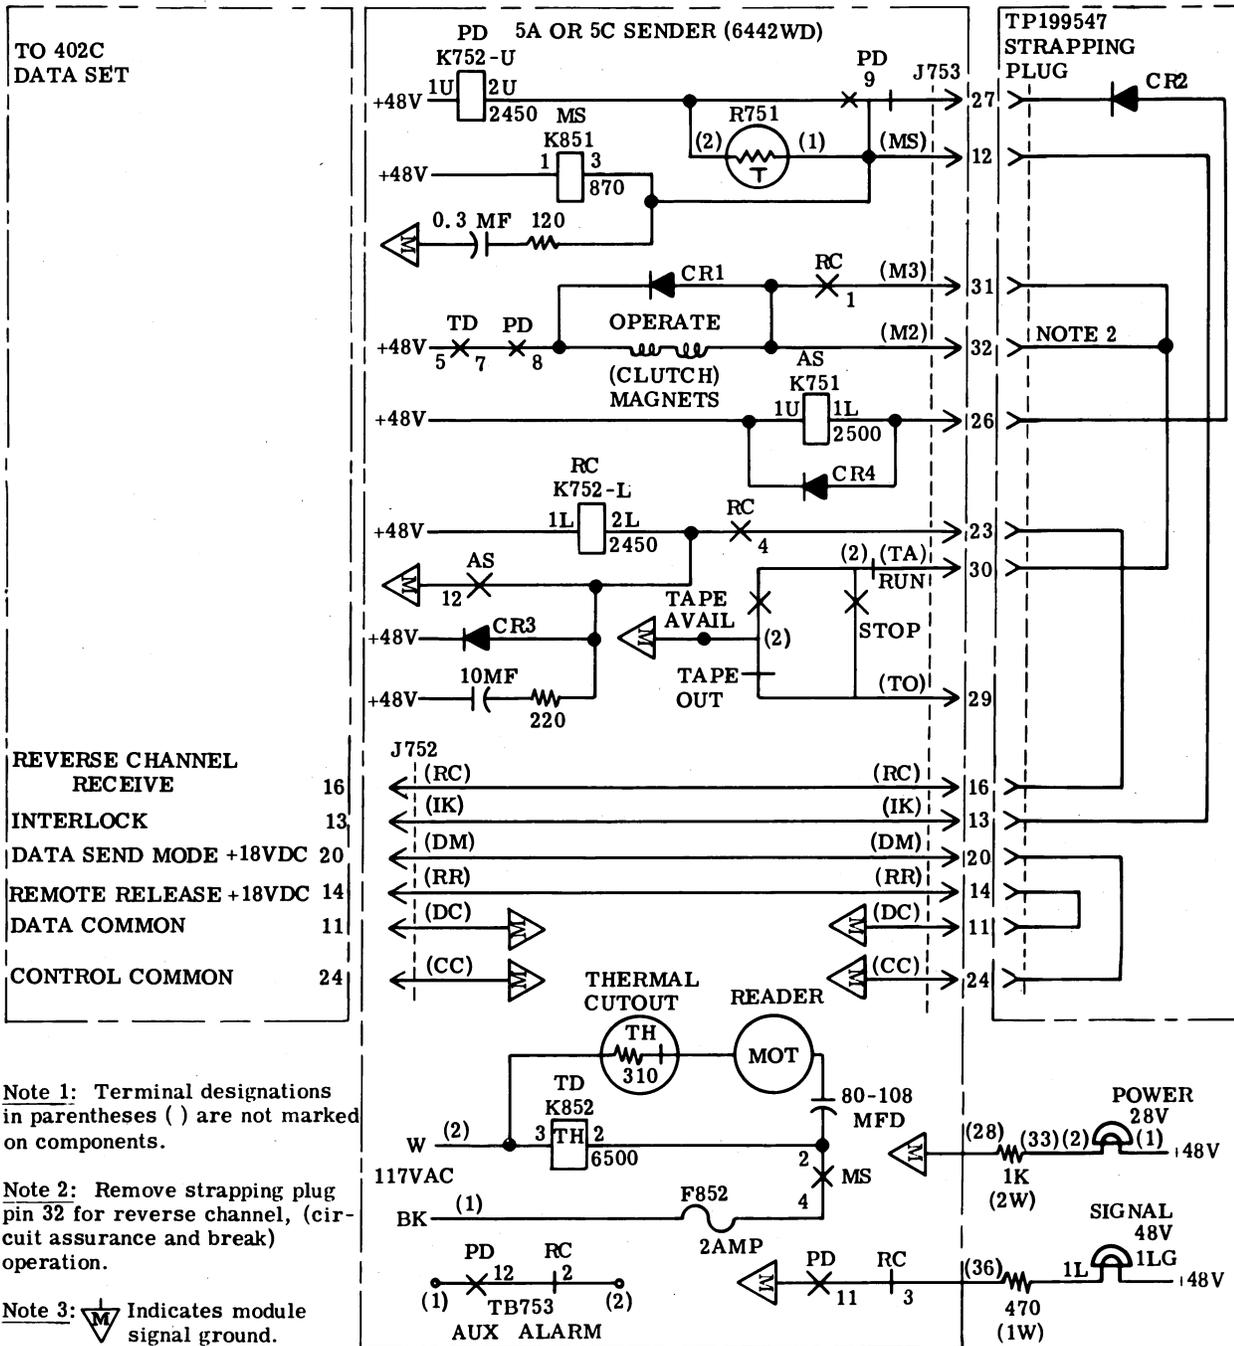

Figure 2 - Tape Sender 5A and 5C Control Circuits
Unusual troubles that may not have been anticipated in this section can be cleared by reference to the theory of operation in the description and operation section, where circuit details are discussed. An interconnecting block diagram and control circuit diagram are included here for the convenience of the service man (Figures 1 and 2). Also included are trouble sources and general information that otherwise may be difficult to obtain (Figure 2 and Charts 1 and 2). Refer also to the complete diagrams shipped with the equipment, if available.
3.08 DATA SEND MODE, DM Lead Pin 20 (Figure 2)
3.09 REMOTE RELEASE, RR Lead Pin 14 (Figure 2)
3.10 REVERSE CHANNEL RECEIVE, RC Lead Pin 16 (Figure 2)
- (a) This lead must be grounded by the data set, if the TP199547 strapping plug is wired for reverse channel (circuit assurance and break feature) (Figure 2, Note 1), to energize the reader (clutch) operate magnets.
3.11 INTERLOCK, IK Lead Pin 13 (Figure 2)
3.14 Failure of the reader to read, with the motor operating normally, may indicate a defective TD relay (K852 - Figure 2). Check by removing the relay and placing a jumper between pins 5 and 7 of the relay socket. This should allow the reader to start. The pins are numbered, looking at the face of the socket, counterclockwise starting at the key of the large center hole.
3.16 Failure of the reader to read may indicate dirty or maladjusted RUN-STOP or tape-out contacts in the reader. This trouble can also be caused by reverse channel failure in stations equipped with the circuit assurance and break feature. At such stations it is necessary to block the RC relay (K752-L) or rewire the strapping plug, with pin 32 inserted (Figure 2, Note 2) to make the reader operate when no reverse channel signal is being received.
3.17 The presence of defective or early type echo suppressors in the telephone plant may result in loss of reverse channel with a resulting failure of the RC relay (Figure 2) to remain energized, through its own contact 4 to data set pin 16, after it has been operated by contact 12 of the AS relay (K751). This causes the reader to stop when the AS relay releases
Note: In those units arranged for reverse channel (circuit assurance and break) operation, release of the RC relay prevents the reader from starting (Figure 2, Note 2). To check the tape reader operation, hold down the RC relay armature manually.
3.50 Before starting to shoot trouble, check the wiring options (TP199547 strapping plug) and the extra feature units (such as recognizer) in use. If a Sender that is wired for reverse channel operation is to be operated without a reverse channel signal, either the reverse channel (RC) relay must be manually blocked in its operated condition or the strapping plug must be rewired, with pin 32 inserted, for operation without reverse channel (Figure 2, Note 2). Wiring options related to an extra feature unit are given in the section covering installation of the Sender. Troubleshooting an extra feature unit is explained in the section covering that unit.
(d) Manually operate and visually check, or test, any relays and contacts that could be related to a trouble (Figure 2 and 6442WD). Contacts and slip type connectors are more likely to cause trouble than most other circuit elements.